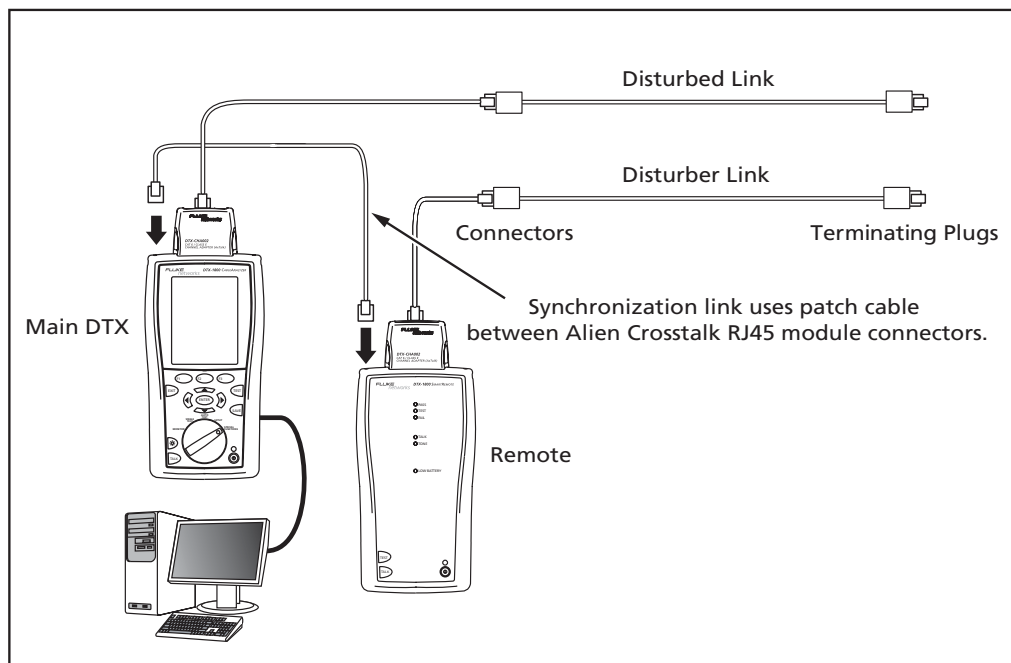

Figure 2-1. PS ANEXT Test Setup
Figure 2-1 shows the PS ANEXT test setup.
- 7 Set up the DTX for alien crosstalk testing (see Figure 2-1):